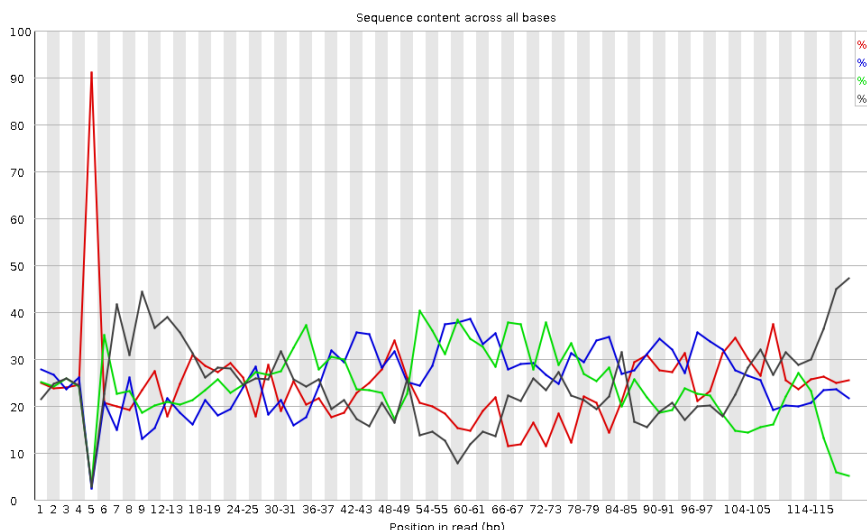

Figure 2. Sequence content across all bases graph. The sequence content of a high-quality library has a T peak in position five in 90-100% of the reads.
- **C7.2** Use the library profile results to determine whether each sample is suitable for sequencing. Successful library production should yield a major peak at ~200-220 bp (see Fig. 2). Additional peaks might be observed at about 170-190 bp that originate from adapter dimers. If the peak areas are higher than 50% of the principal 200 bp peak, you need to purify the libraries from gel before proceeding with sequencing.
Figure 2. Example electropherogram libraries results. Typical electropherogram for a library prepared with an immortalized cell line. The library was analyzed on an Agilent 2100 Bioanalyzer using the Agilent High Sensitivity DNA Kit. The electropherogram need to present at least one major peak between 200 to 220. Tin this example, the peak at 213 bp corresponds to the size of RPFs, while the peaks at 170-190 bp correspond with the size of adaptor dimers.
The T at position fifth precedes the start of the RPF. The sequence content of a high-quality library has a T peak in position fifth in 90-100% of the reads (Figure 2).